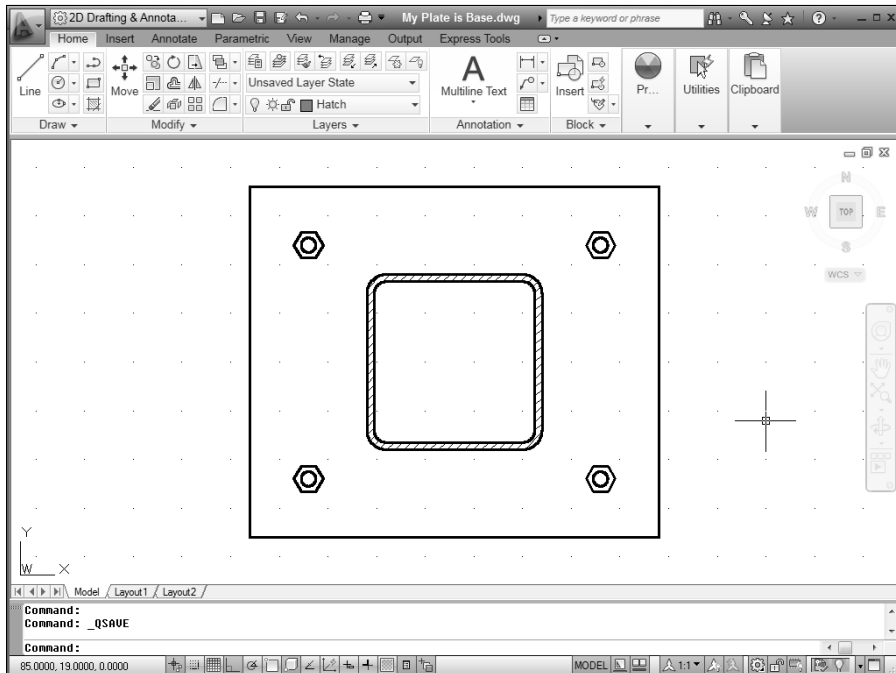

Figure 3-1:
In this chapter, you create a drawing of an architectural detail — a base plate and column, as shown in Figure 3-1. Even if you don't work in architecture or building construction, this exercise gives you some simple shapes to work with and demonstrates commands you can use in most drafting disciplines.
In this chapter, I walk you through creating, editing, viewing, and plotting a new drawing — refer to Figure 3-1 if you want to get an idea of what the finished product looks like. You can follow these steps using either imperial or metric units; I show metric values in brackets after the imperial ones, like this: Type **1.5 [38]** and press Enter.
- 11. Click the tiny down arrow below the Zoom button (the one with the magnifying glass) on the Navigation bar (at the right edge of the drawing area in Figure 3-1), then choose Zoom All from the menu.**